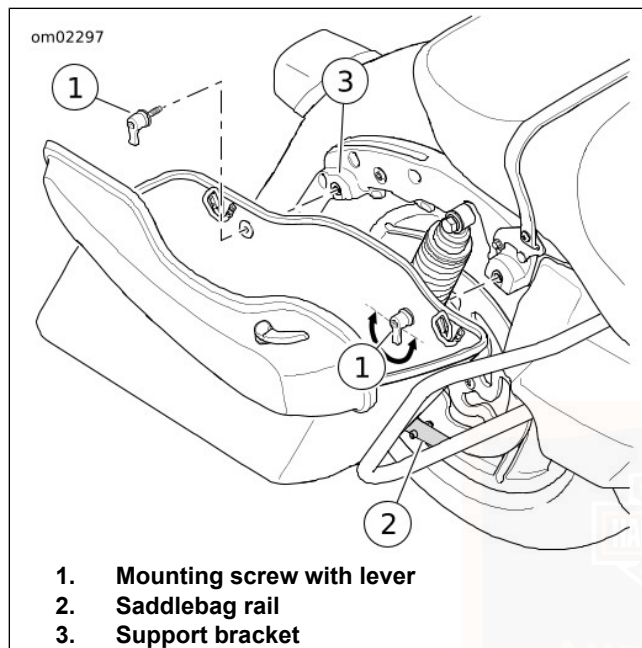

Figure 57. Saddlebag Removal/Installation
2. See Figure 57. Turn the mounting screw levers counterclockwise to remove the mounting screws from the support bracket.
1. See Figure 57. Carefully place saddlebag in position on saddlebag rail. Align the mounting grommets with the support bracket.